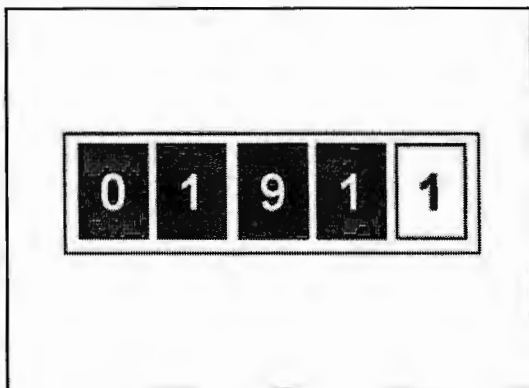

Fig. 11-2 — Hourmeter
2. **Hourmeter** - The hourmeter indicates the number of hours that the engine has been running. This indicates up to a maximum of five digits. Characters with a black background are whole hours while characters with white background are in tenths of an hour. (See Fig. 11-2).